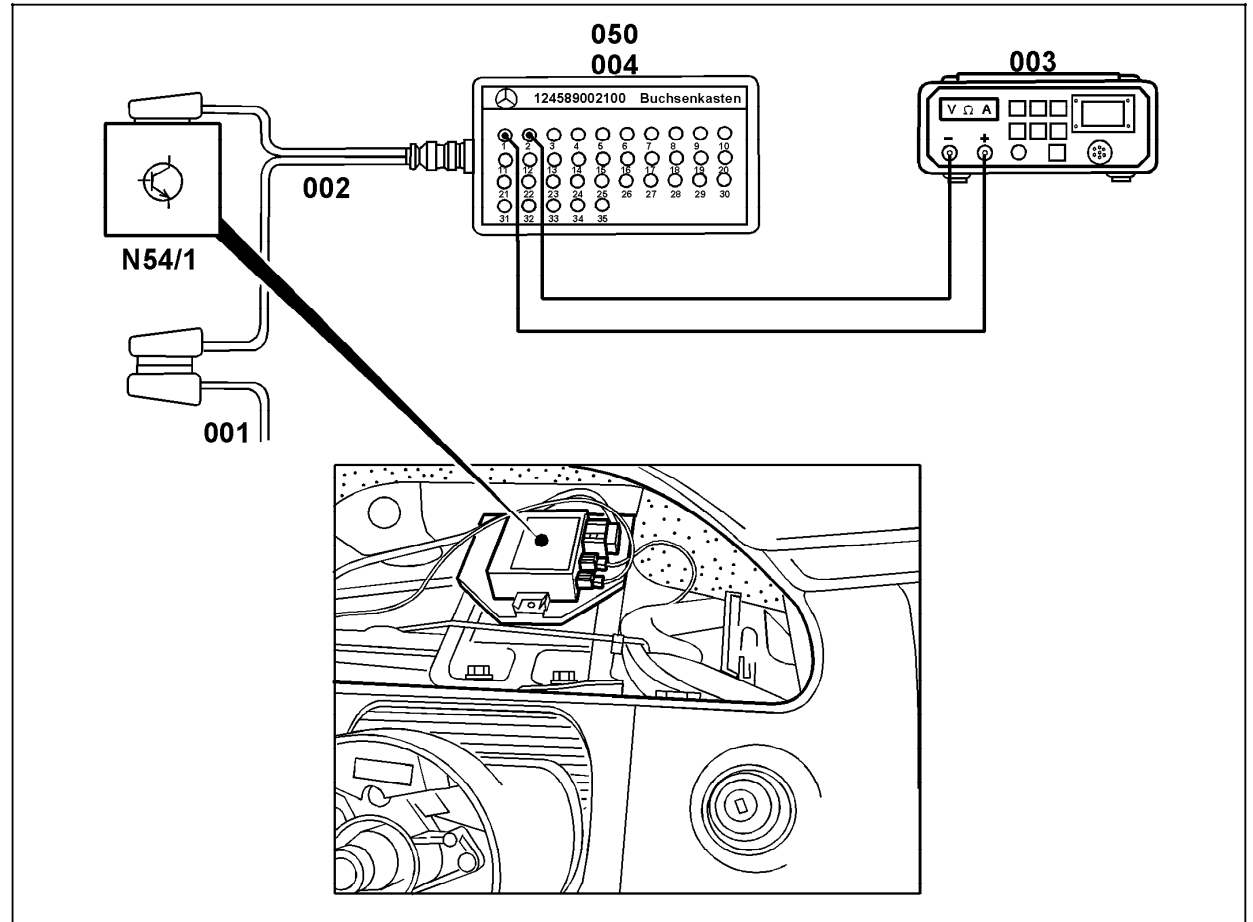

Figure 1
5. Connect socket box with test harness according to connection diagram (see 22, Figure 1 and 2).